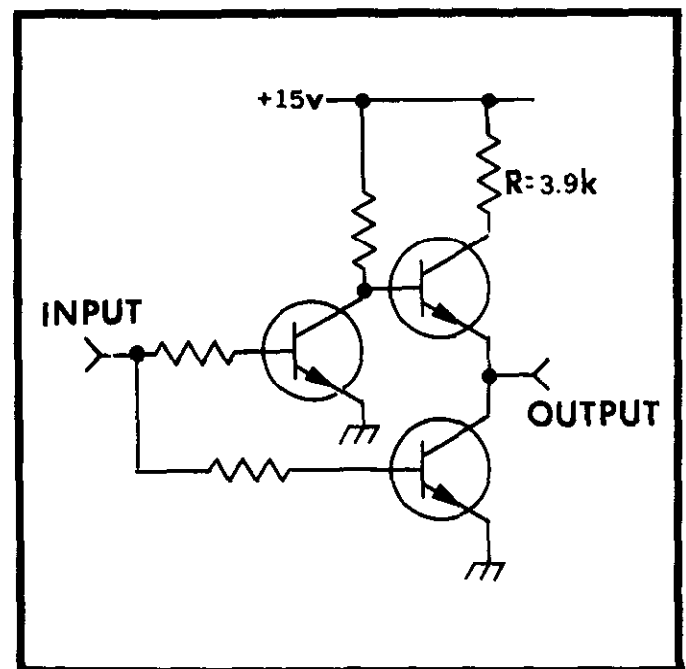

FIGURE 19. Model 4401 Buffer Stage.
g. Output Buffer Board, PC-218. This board contains 15 buffer circuits to provide BCD Data and Overload and Polarity Print signals. Buffer circuits "A" through "P" consist of transistor buffer stages as shown in Figure 19.